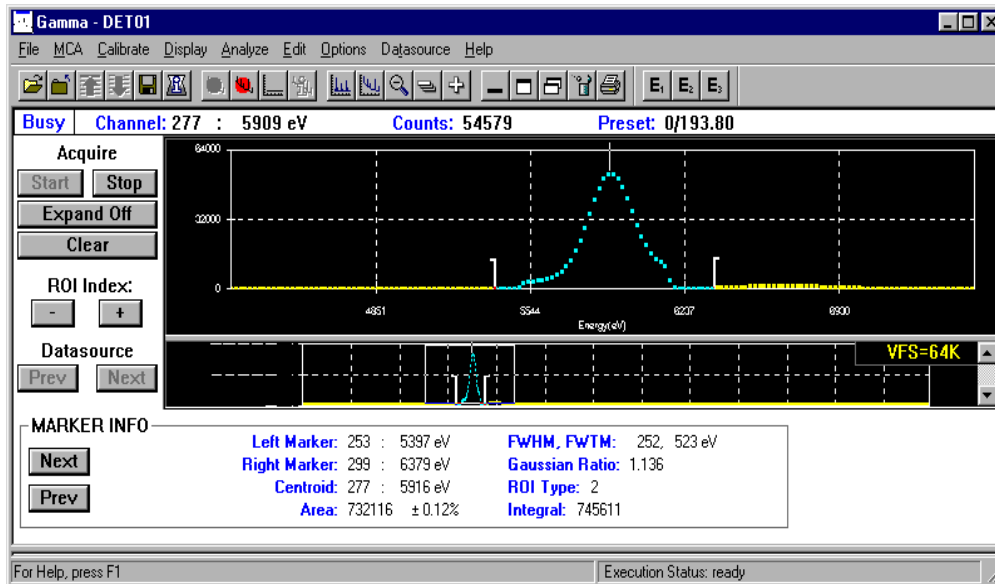

Fig. 14
4. The screen will be divided in two parts: TCA Window Setup shown in Figure 12 will appear at the top and Gamma - DET01 (Fig. 14) on the bottom.
9. If Gamma - DET01 window looks exactly as shown in Fig. 14, including a region of expansion that includes the fluorescent peak, this region doesn't need to be changed. If no such region exists, press the Expand On button and the expansion region will appear. A white box will appear in the unexpanded portion of the spectra. Use the mouse to drag the box to include the portion of the spectra that is to be expanded. Dragging the edges of the box changes the size of the box and dragging the center of the box changes the location of the box.